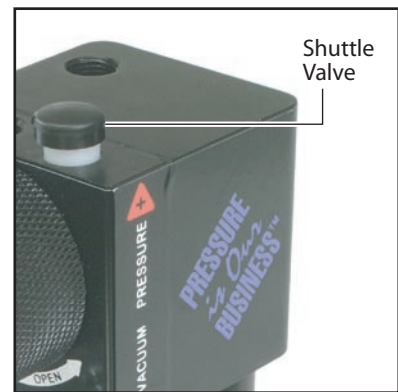

Figure 2
- 2 Connect the ComboPump to your test set-up. Move the Shuttle Valve (figure 2) up or down to select whether you want PRESSURE MODE (up position) or VACUUM MODE (down position). Make certain the valve is fully UP or fully DOWN.